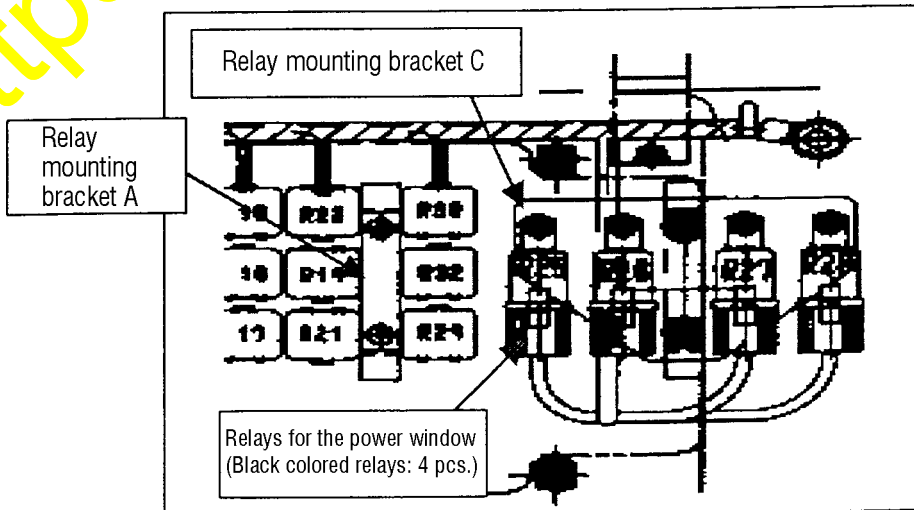

Fig. 20
- 3) Remove the power window relay mounting bracket C and remove the relay. (Refer to Fig. 20.)